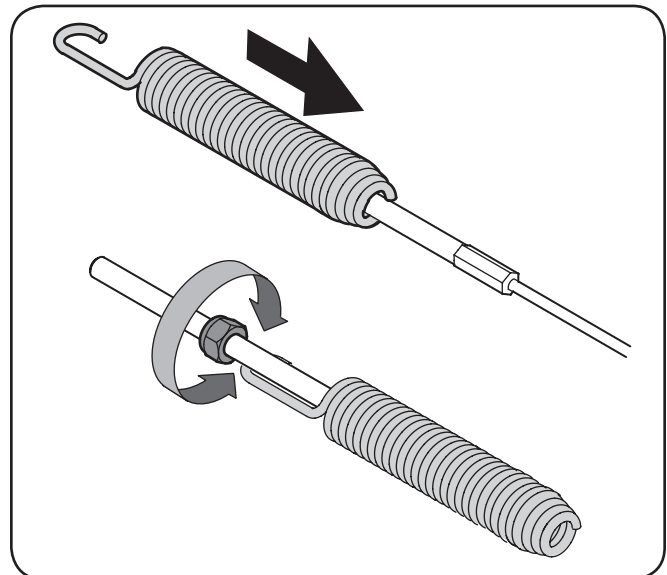

Figure 3-11
2. Slide the spring up the cable to expose the cable coupler threads and lock nut. Refer to Figure 3-11.